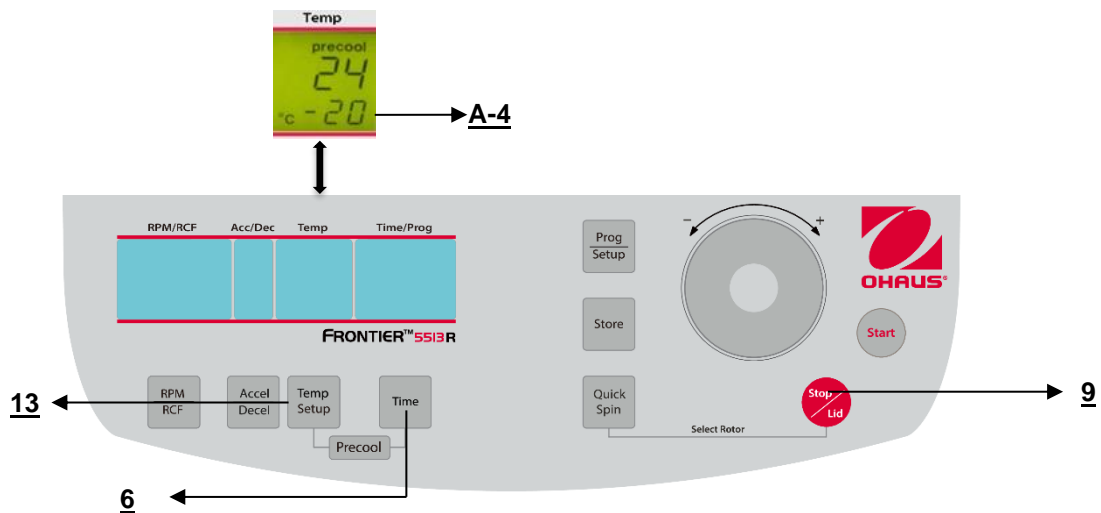

Figure. 17
If the samples are temperature-sensitive it is useful to pre-cool the centrifuge, the rotor and eventually the buckets to the required working temperature. Therefore, insert the desired rotor and pre-set the respective temperature. By simultaneous pressing the keys "**Temp/Setup**" (13) (refer to figure 17) and "**Time**" (6) you start the run. While running, the unit chooses automatically a rotational speed that is equivalent to 20 % of the permitted rotational speed of the respective rotor. After the pre-set temperature is reached you can leave the pre-cooling run with the "**Stop**" key (9). Depending on the inserted rotor the pre-cooling goes between approx. 10 and 20 min.